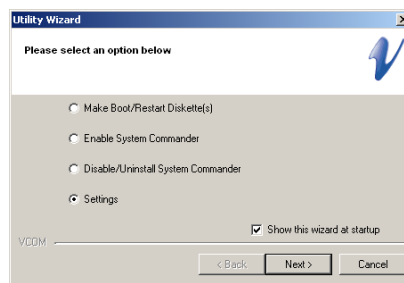

Figure 11-2: Enable System Commander
5. A “Utility Wizard” dialog box will automatically be displayed (see Figure 11-2) select the “Enable System Commander” entry, click on “Next”, exit the System Commander program and restart the computer, booting from the System Commander Boot CD supplied.